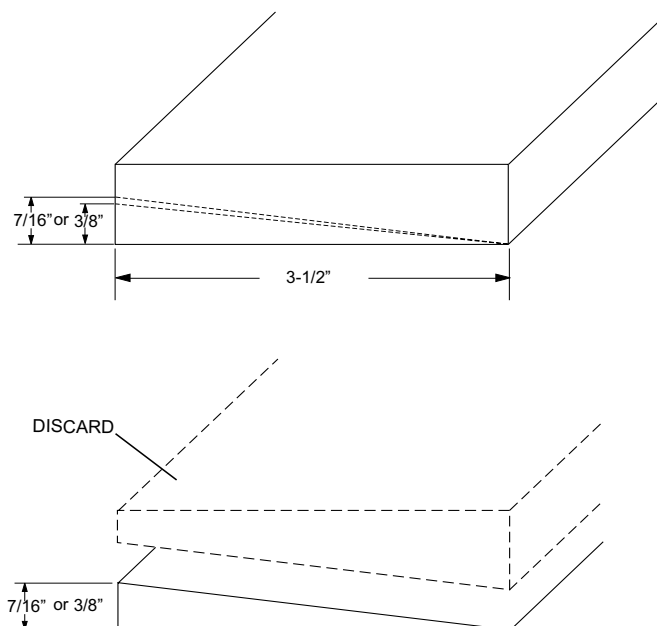

Figure 1
2. Cut the four 1" x 4" x 8' boards lengthwise. Refer to *Figure 1*.